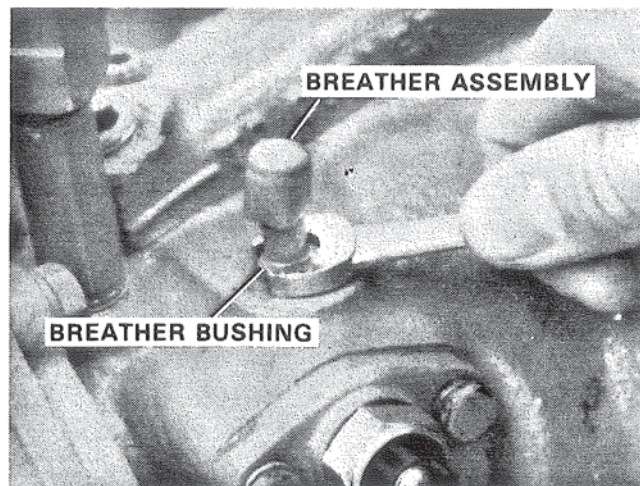
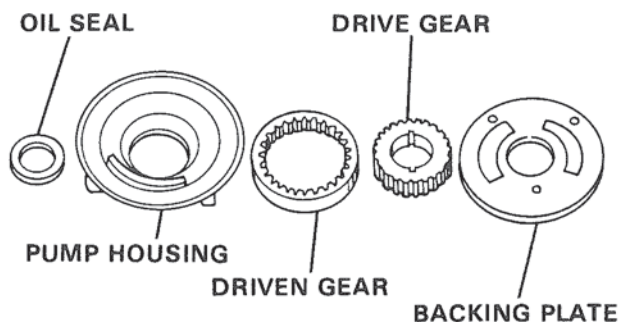
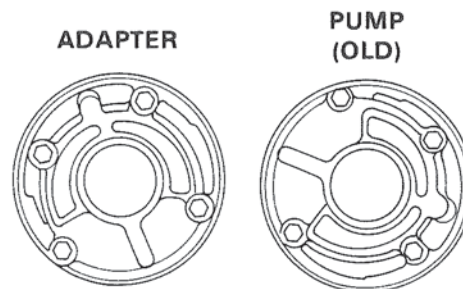

Figure 103. Pump Porting in 71B-8 Adapter.
Figure 104. Front Pump Assembly 71-A60.
Figure 112. Orientation Markings for Old 71-1A60 Pump Assembly on 71-8B Adapter.
The following instructions are for the assembly of the front pump with a backing plate. Figure 104. This pump can be used with either of the two different adapter housings, but it should normally be found assembled on the one shown in Figure 103. Any of the various versions of the input shafts may be used with this pump, but the proper key must always be used with each shaft.
1. Collect the parts shown in Figure 104 and check carefully for the following:
The older pump assembly with backing plate identified by the absence of the rib on the 71-60 pump housing, would appear as illustrated in Figure 112, when mounted on the old 71-8B adapter. Figure 103. This older pump assembly with backing plate could also be mounted on the new 71C-8 adapter, Figure 77, but this has not been illustrated as no original factory installations were made in this manner.